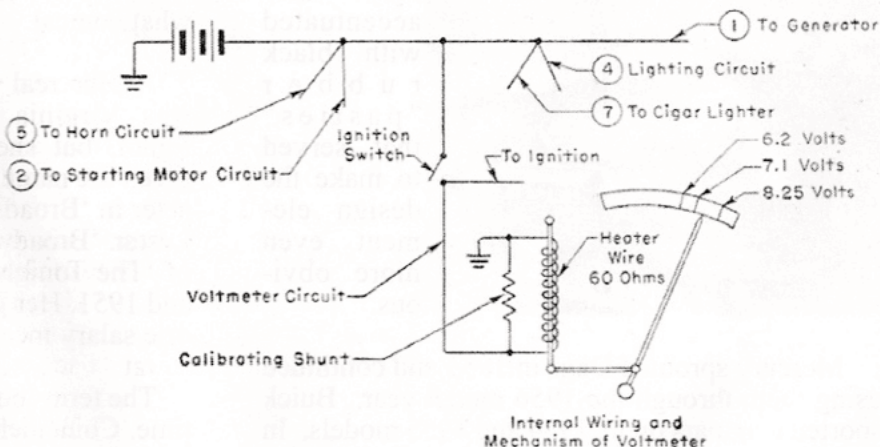

Fig. 1. Charge Indicator (Voltmeter) Circuit
b. **Voltmeters.** For several years, Ford Motor Company products used a voltmeter rather than an ammeter. In this instance, this instrument, like most electrical instruments, is connected from the cold side of the ignition switch to ground as shown in Fig. 1. This is a heater-wire type voltmeter and its slow reaction does not permit its use for testing purposes.
The heater-wire type voltmeter is like a thermal circuit breaker, except that as the bimetal heats, instead of breaking a circuit it actuates the instrument hand or pointer through a mechanical linkage as shown in Fig. 1. In drawing this unit in a circuit drawing, it can be shown the same as the thermal circuit breaker except for the omission of the contact points.
The circuit diagram of a typical voltmeter installation is shown in Figs. 1 and 10. Before condemning the instrument itself, test for open